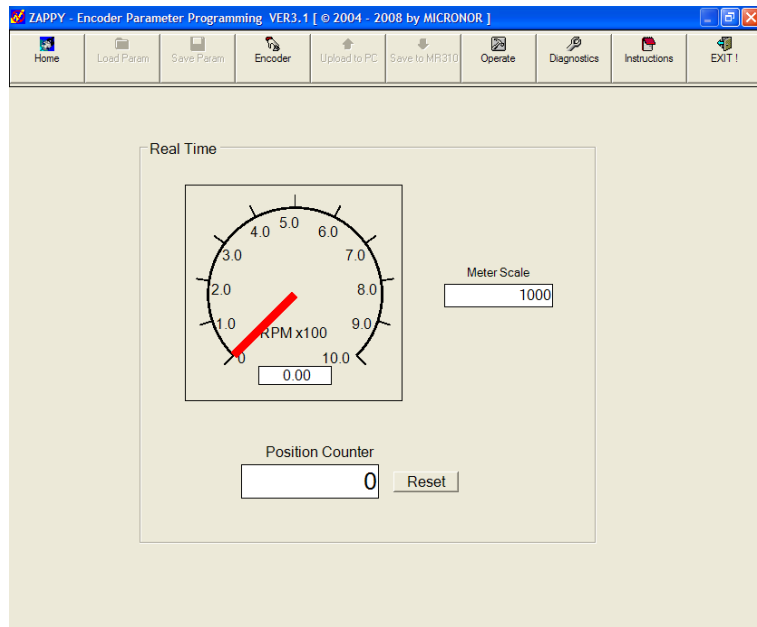

Figure 16. Initial OPERATE Screen via ZAPPY™ Software.
- **STEP 1:** Select [OPERATE] mode and observe the initial static screen display similar to Figure 16. Adjust RPM METER SCALE setting as desired by writing into the field. Click on [RESET] to zero the POSITION COUNTER.